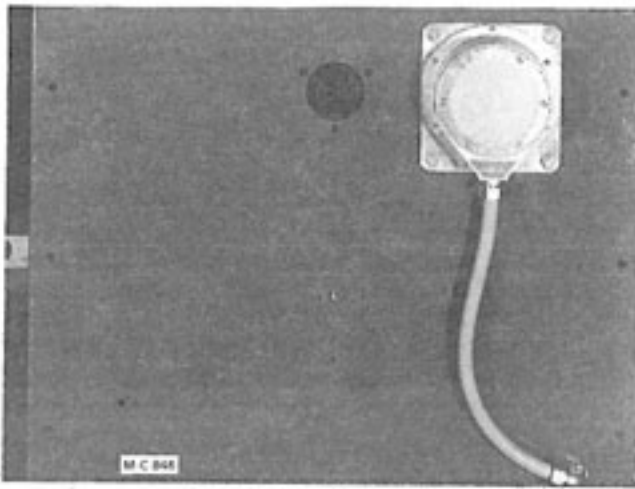
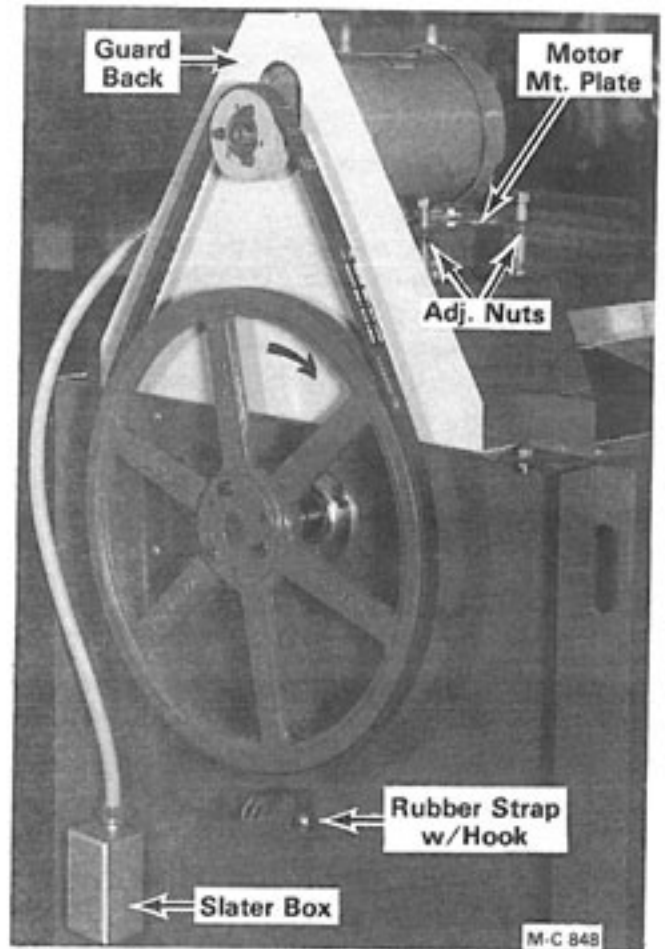

Figure 2 - Bin Switch
Figure 3
1. Install the bin level indicator (with flexible conduit) to the inside of the hopper front end panel with $\frac{1}{4}$ -20 x $\frac{1}{2}$ " truss head screws and two-way locknuts, see Figure 2. Secure the 90° fitting with nut provided and thread the Slater junction box (Figure 3) onto the 90° fitting.
2. Put four $\frac{1}{2}$ -13 x $3\frac{1}{2}$ " full thread capscrews in the level auger motor mount and lock in place with flanged locknuts. Thread a $\frac{1}{2}$ -13 hex nut onto each capscrew and install the motor mount plate with motor, see Figure 3.
3. Install the level auger guard back as shown in Figure 3.
11. Install the rubber strap with hook to the front end panel as shown in Figure 3. Hook the
1. Connect the flexible conduit to the bottom of the Slater junction box on the hopper front end panel, see Figure 3.